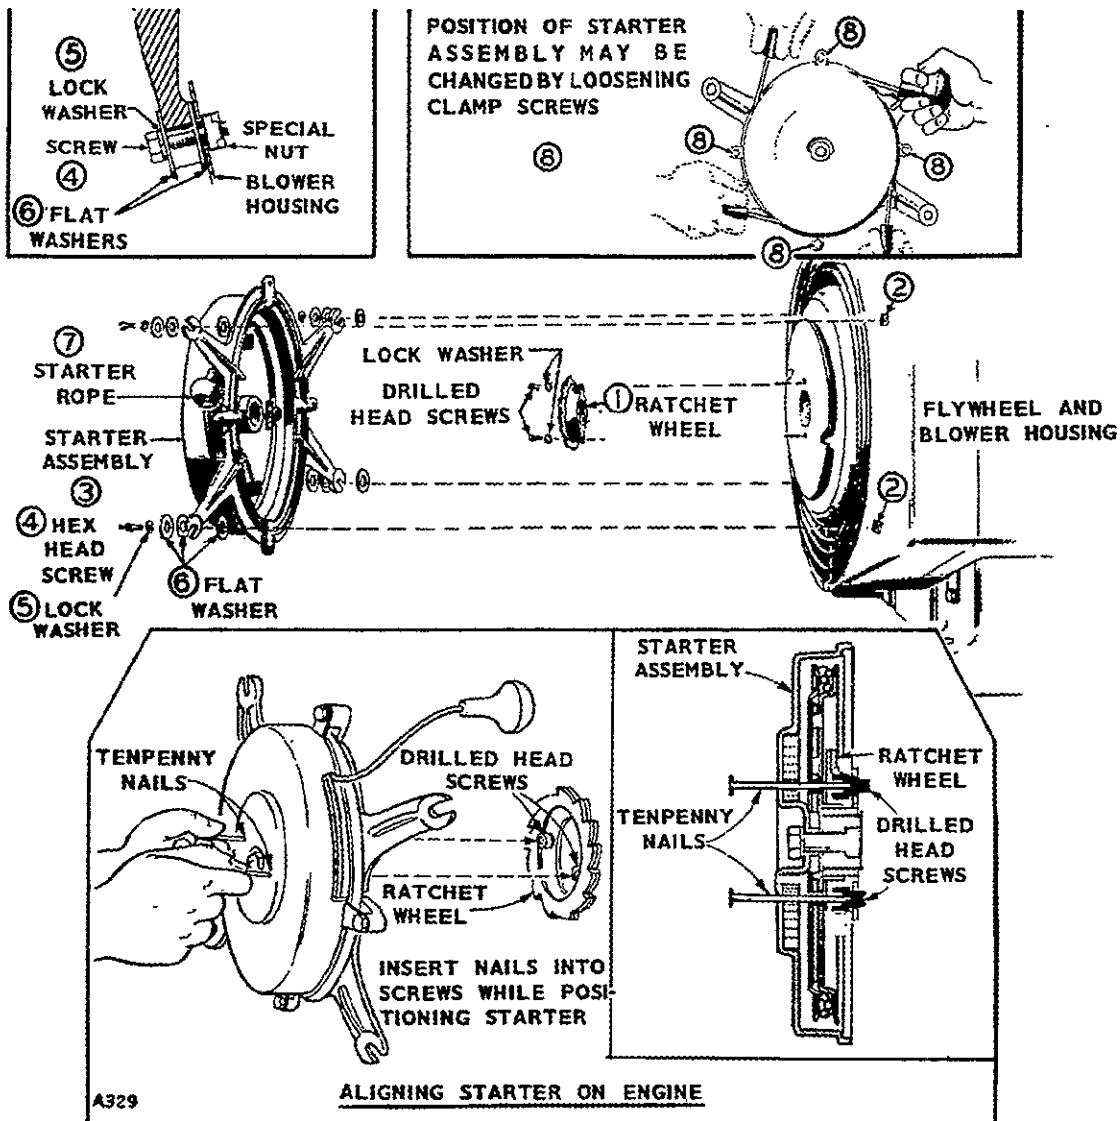

FIGURE 57. UNITS PRIOR TO SPEC E
**Units Prior to Spec E:** Refer to Figure 57. The blower housing on the engine must be as rigid as possible. Examine the blower housing carefully. If the mounting holes are worn or if the blower housing is otherwise damaged, replace it with a new one. Proceed as follows to install the complete starter kit:
2. Install the new ratchet-wheel (1) to the blower wheel, using the two special head screws and lock washers provided. A 3/8-inch 12-point socket or closed end wrench fits these screws. Tighten securely.
3. Four special nuts are supplied for mounting the starter to the blower housing. If the blower housing is not already fitted with similar mounting nuts, remove the blower housing and install the nuts in the square holes (2) in the blower housing. See detail A. Reinstall the blower housing, tightening securely in place.
5. Install the starter assembly (3) to the blower housing, making sure that the nail ends enter the pilot holes in the ratchet wheel mounting screws. It will probably be necessary to turn the flywheel a partial revolution to allow proper alignment.